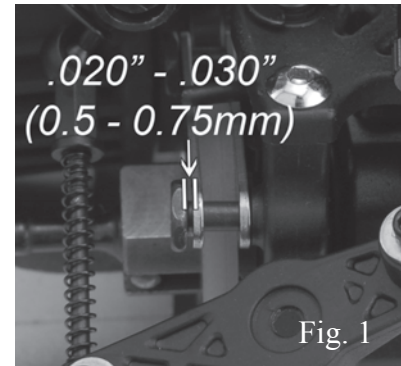

Fig. 1
3. Using a 4-40 washer as a gauge, adjust the brake screw to set the gap between the head of the screw and the brake pad to .020 - .030" (0.5 - 0.75mm). The washer should not be snug into the gap. (Fig. 1)